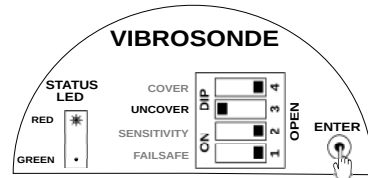

Figure 14: Setting Uncover Delay
3. Press ENTER and keep it pressed as shown in Figure 14. The STATUS RED LED will start blinking. Count the number of blinks. After setting the value release the ENTER key.